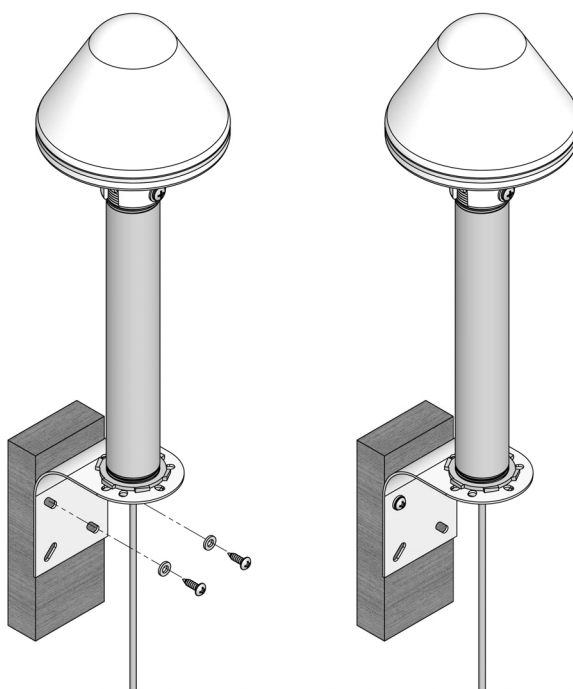

Figure 2-14 • Mounting SyncServer S80 to a Vertical Surface
14. If mounting to a vertical surface, attach the mounting bracket with the included screws, as shown in Figure 2-14. Adhere to local building codes to determine the type and number of fasteners, screws, bolts, etc. that may be required.